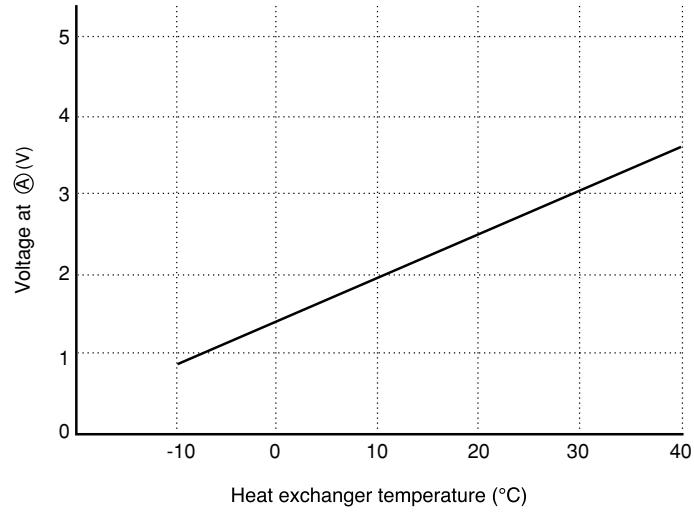

Fig. 4-2
- The voltage at \textcircled{A} depends on the room temperature as shown in Fig. 4-2.